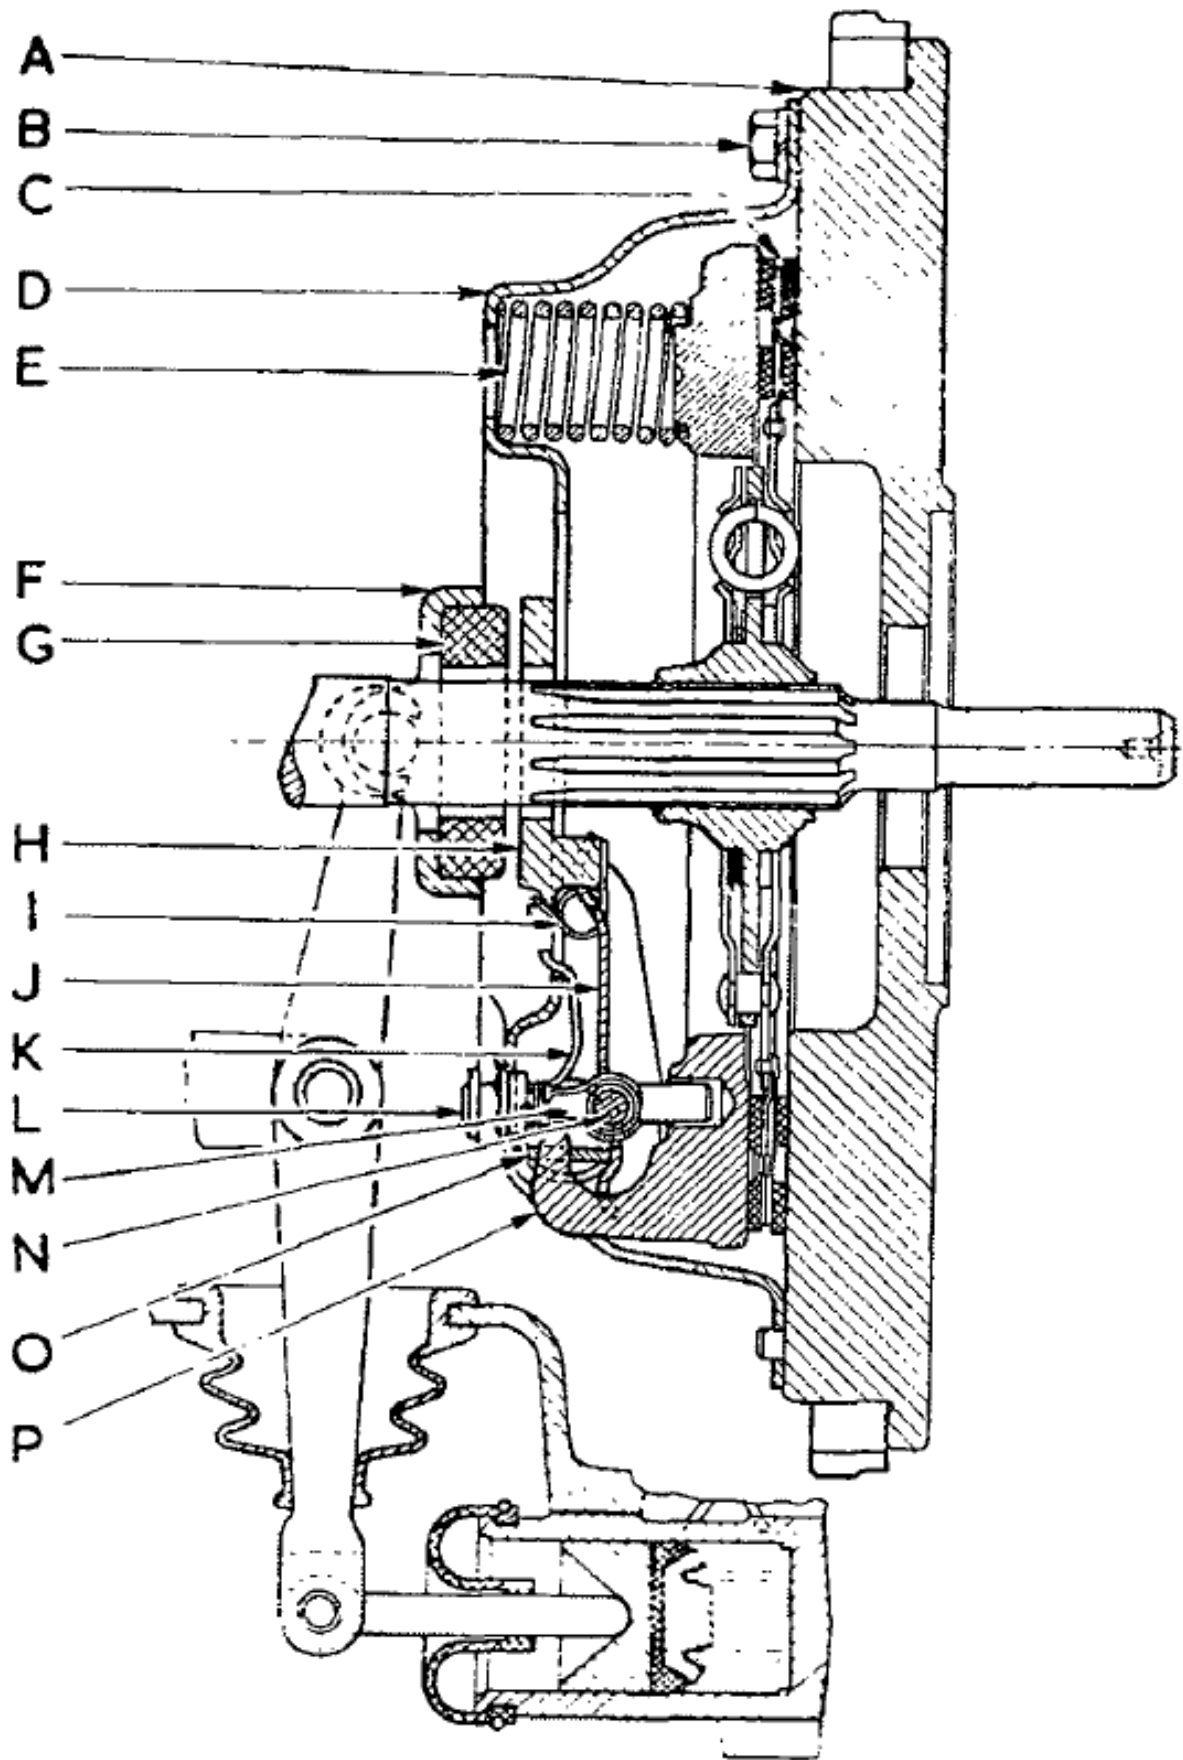

Fig. E.1. A section through the clutch.
Each release lever is pivoted on a floating pin (N), which remains stationary in the lever and rolls across a short flat portion of the enlarged hole in the eyebolts (M) (see Fig. E.1). The outer ends of the eyebolts extend through holes in the clutch cover and are fitted with adjusting nuts (L) by means of which each lever is located in its correct position. The outer or shorter ends of the release levers engage the pressure plate lugs by means of struts (O) which provide knife edge contact between the outer ends of the levers and the pressure plate lugs, eliminating friction at this point. Thus, the pressure plate (P) is pulled away from the driven plate (C), compressing the six thrust coil springs (E) which are assembled between the pressure plate and the clutch cover (D).
Lay the cover over the parts, taking care that the anti-rattle springs are in position as shown in Fig. E.1 and that the springs are directly under the seats in the cover. Also make sure, if using the original parts, that the eyebolts, eyebolt nuts, pressure plate lugs and cover are fitted in their correct relative positions, as marked when dismantling, to ensure correct balance being maintained.